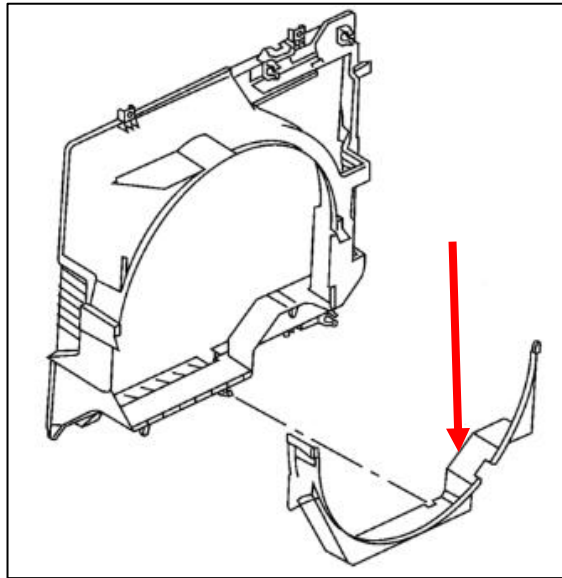

Figure 3
8. Remove the lower half of the Fan Shroud. *Figure 3.*